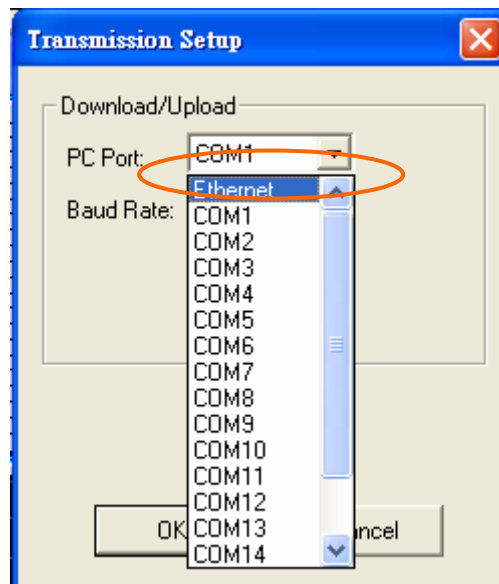

Figure 210. [Transmission Setup]
2. In ADP 6.0, select [Options]/[Transmission Setup] and select "Ethernet" from the [PC Port] list. See Figure 210.